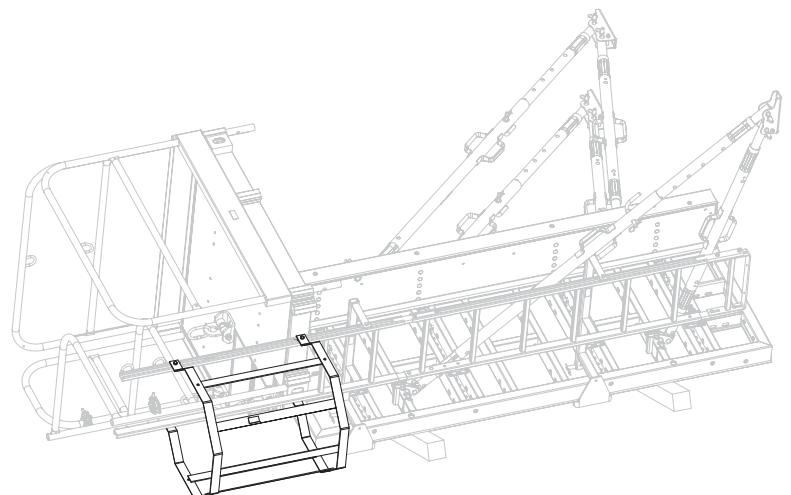

Fig. A3.08
4. Mount Ladder Safety Cage 75 or 150 with clamping plates according to the plan. Depending on the situation, mount with overlapping ladder joints. (Fig. A3.08)